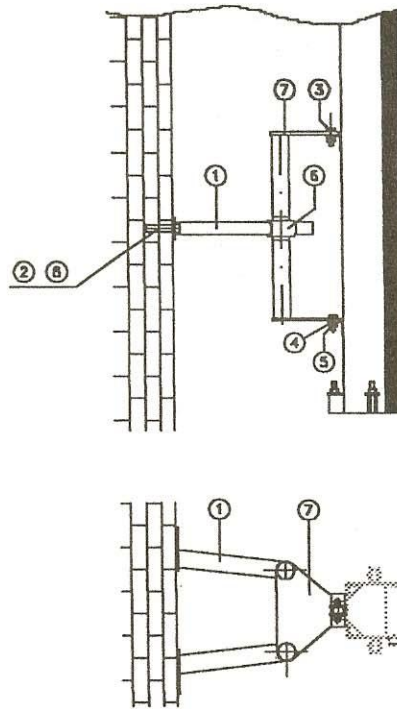

FIG. 5.6.1 Anchorage
- 3 - The platform may now be raised. Press the ascent button and go up to a suitable height for assembling the next vertical elements (approx. 20 cm = 0.65 feet from the top of the same). Grease the taper pins and the racks. Insert one vertical element into another and secure using the bolts provided, which should be tightened with the values given in table 11 on page 62. Then ascend again and repeat the operations until the first anchorage point is reached. The scaffolding should be anchored to the wall (figure 5.6.1) in such a way that both translation parallel to the wall and tipping outwards are prevented. The vertical elements should therefore be fixed to the wall with clamps (450 mm = 1.47 feet for a platform width of 0.80 m = 1.47 feet),  $\varnothing$  48 mm (0.16 feet) right-angle clamps, screws and expansion anchors (the maximum reactions exerted on the outer wall are given in table 10. The free-standing height after the last anchorage should not exceed 6 m (19.68 feet) (4 vertical elements).